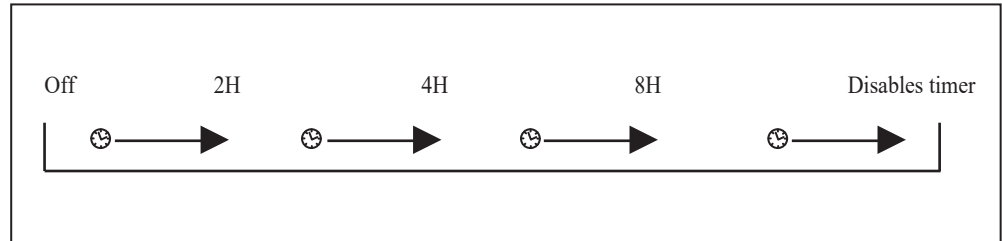

Figure 19
1. Pressing the timer button will automatically turn fan and light (if light is on) off after 2, 4, or 8 hours. When you activate the timer mode, the LED to the left of the time above the clock will illuminate. (Fig. 19)